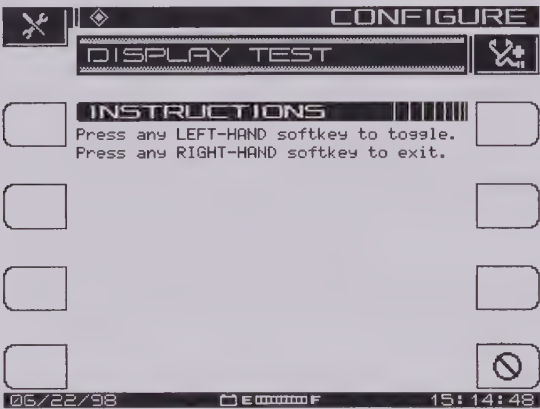

Fig. 2-10 The DISPLAY TEST Screen
- **Display Test:** This option allows you to test the operation of the display. Select Display Test and press the **Enter** key to call up the screen shown in Fig. 2-10. This test merely checks the on/off properties of the screen. You have two options, which operate as follows: